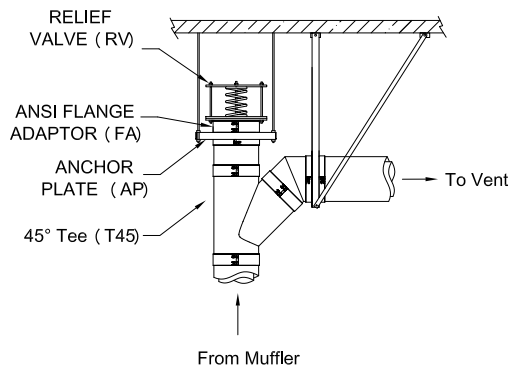
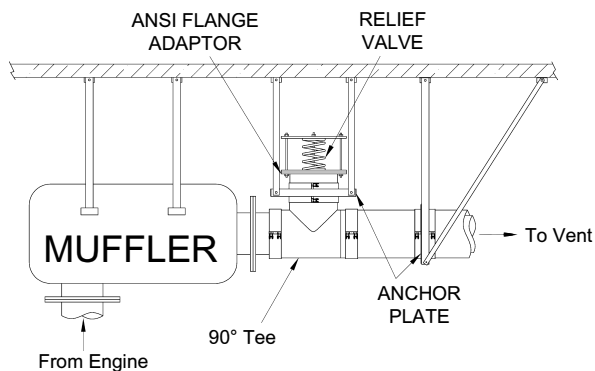

Figure 75b - Typical installations with a 45° Tee and a ANSI Flange Adaptor (FA)
Figure 75c - Typical installations with a 90° Tee and a ANSI Flange Adaptor (FA)
1. The Relief Valve (RV) should be located in the beginning of the system.
2. The orientation of the Relief Valve must be positioned upright, as shown on the Figure 75b with a 45° Tee (T45) or on Figure 75c with a 90° Tee (T90).
3. The Relief Valve must be connected to our ANSI Flange Adaptor (FA). Bolts, washers, nuts, and gasket will provide a complete gas tight connection to the 125/150 lb. ANSI flanged Flange Adaptor.
5. The Relief Valve (RV) must be supported independently of the rest of the exhaust system. The best method to accomplish this is to locate an Anchor Plate (AP) support at the joint between the ANSI Flange Adaptor (FA) and the adjacent Tee (T45 or T90). It is crucial that the Anchor Plate (AP) is properly secured to building structure so that it can withstand the forces generated in case of delayed fuel ignition.